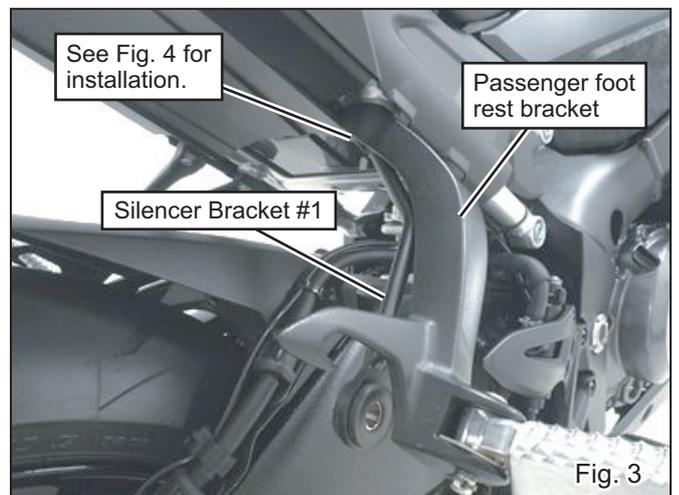

Fig. 3
- 5) Remove right side stock passenger foot rest bracket once. Then, mount Silencer Bracket #1 and removed foot rest bracket together with 2 of Cap Bolt M8x30 (See Fig. 3 & 4). Tighten the bolts by hand only at this stage.